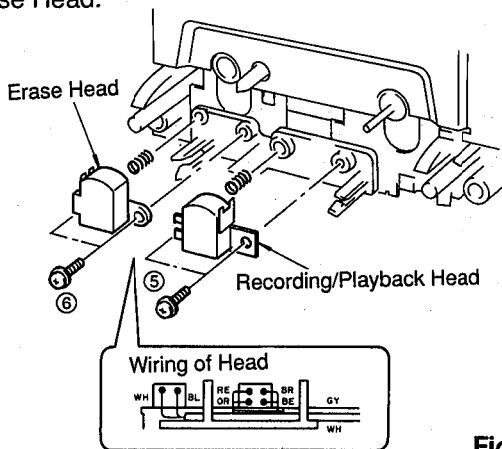

Fig. 6
- a. Remove 2 screws (5) in fig. 6 and then remove the Recording/Playback Head.
- b. Remove 2 screws (6) in fig. 6 and then remove the Erase Head.